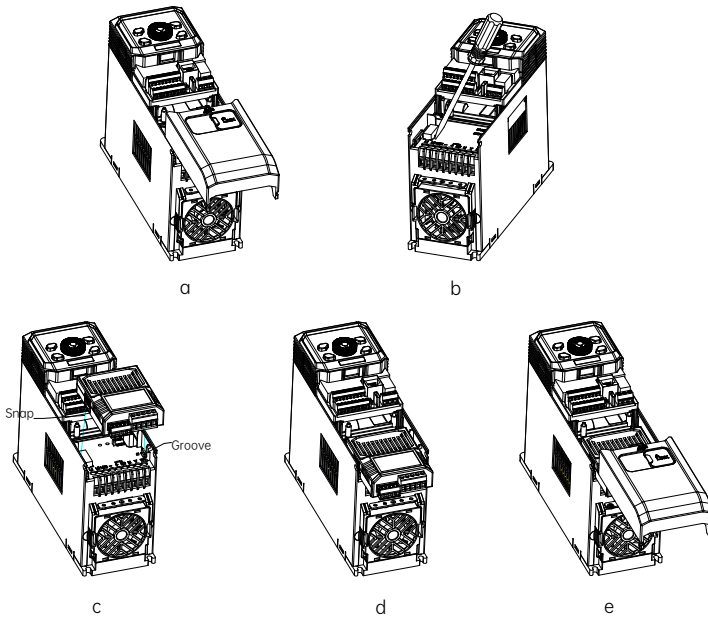

Fig. 2-4 Position 2 - IO option installation steps
- (1) When the drive is powered off, press the granulated part on the middle-upper of the lower cover, slide it down firmly to take down the cover, as shown in Fig. 2-4 a.
- (2) Use a straight screwdriver to pry open the dustproof cap, as shown in Fig. 2-4 b.
- (3) Install the IO option: hold the expansion box (with the IO card inside) upwards (terminals upwards), then align the expansion box with the electrical interface of position 2, and press down horizontally to buckle the spring snap of the expansion box into the groove at the lower part of the drive, as shown in Fig. 2-4 c and d.
- (4) The IO card is successfully installed, as shown in Fig. 2-4 e.